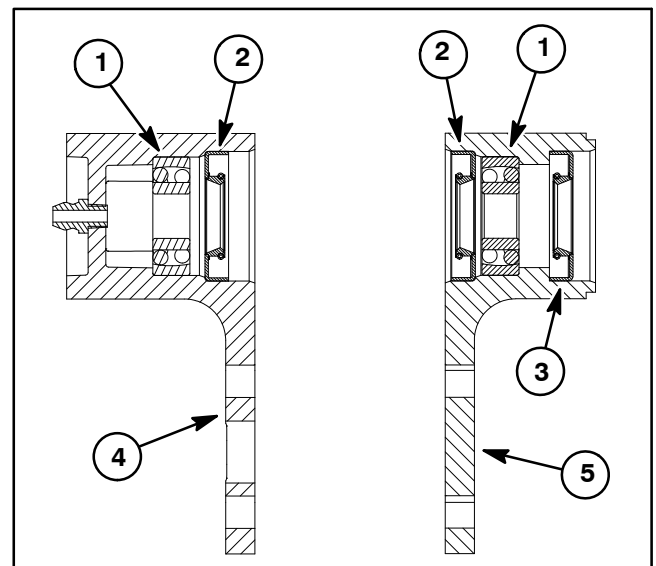

Figure 49
1. If seals or bearings were removed from brush bearing housings, install new components noting proper orientation as shown in Figure 49.
C. Install grease seals so that seal lips are positioned toward the brush location as shown in Fig. 49. Press seals into housing so that seal contacts bore shoulder.